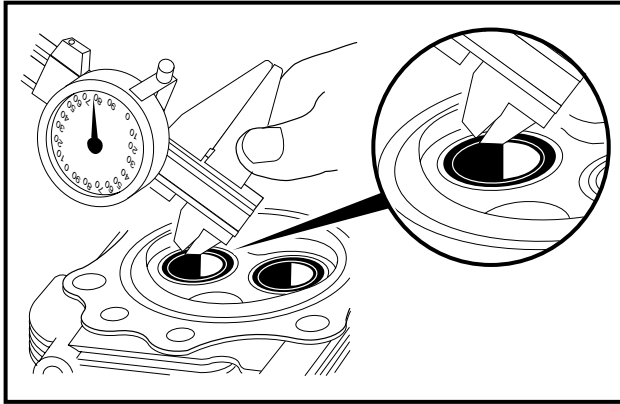

Figure 2-20 Measure Seat Width
- 2.2. Measure the seat width of the 45° angle portion of the seat at several places around the seat (**Figure 2-20, Page 2-13**).